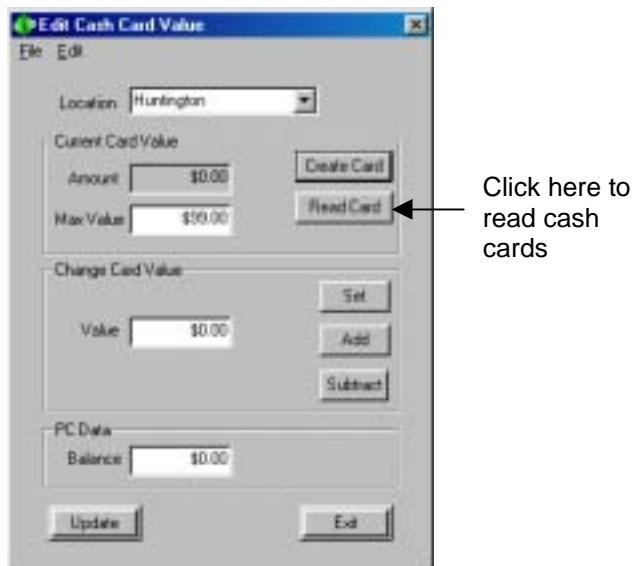

Figure 12.5 Reading a Cash Card
3. Click the Read Card button (Figure 12.5).